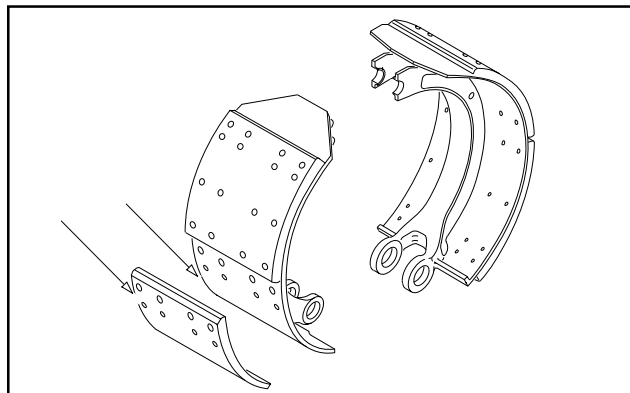

Figure 9
1. Check shoes for bent shoe ribs, cracks in shoe table welds or ribs, and elongated rivet holes. Replace shoes if any of these conditions exist. **See Figure 9.**